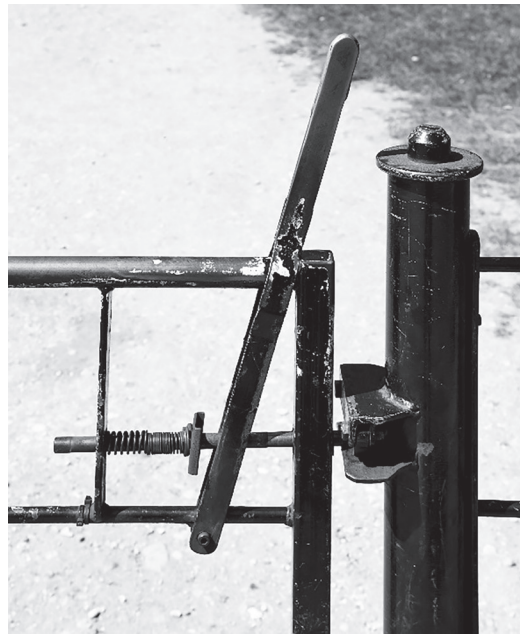

**Fig. 2.1**
- 2 Fig. 2.1 shows a wooden door frame before it is positioned in a building.
Draw on Fig. 2.1 to show how triangulation can be used to prevent the frame from being distorted while it is being installed in the building.